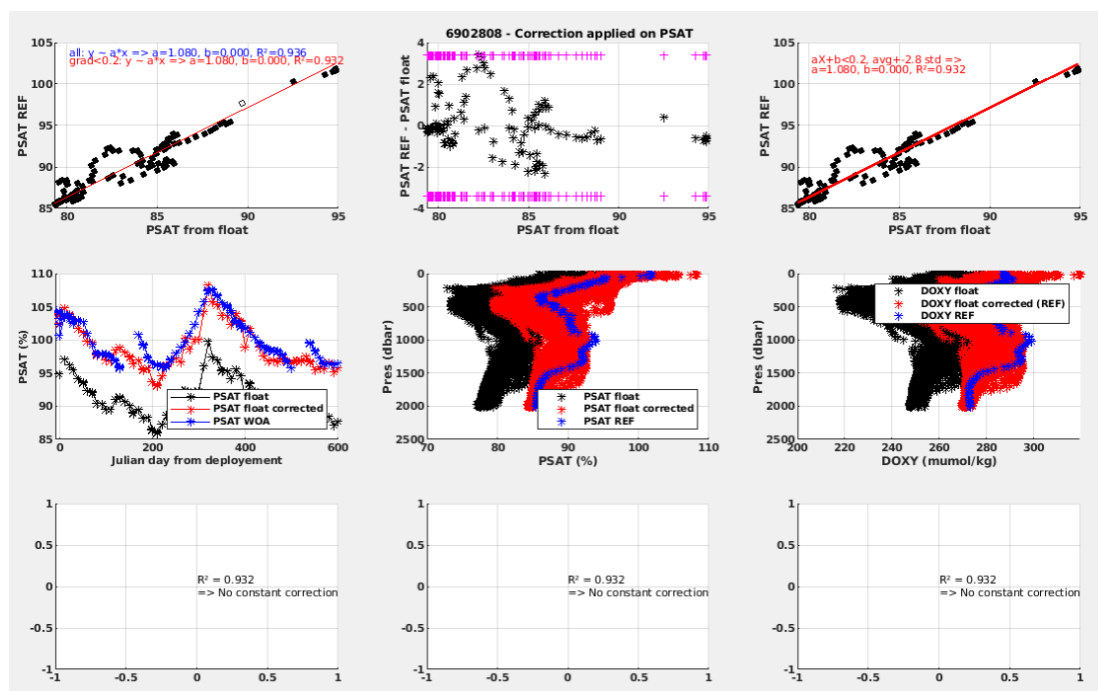

Figure 11.1c. The same as Fig. 11.1b but when the REF method was selected (saved as “DOXY_PLOT_corr...”).
- Figure 11.1c is an example of the figure displayed when the REF method was chosen for the correction. The plot is organized exactly the same way as in the plots of the WOA correction. The difference is that the first line is less dense because the correction has been computed with a single in-situ reference profile, instead of a set of WOA profiles. Another difference is in the time-series on the left of the second line; even if the selected method is the REF one, the time evolution is shown in respect to the WOA data, since the REF profile provide a single point.
In the examples of Fig. 11.1b and Fig. 11.1c the estimated R2 was above the threshold indicated in the configuration file, so, no constant correction should be applied. However, when the R2 is below the threshold indicated in the configuration file, a constant correction is proposed to apply instead of the linear regression correction (see 3.2.3). When R2 is below the threshold indicated in the configuration file another question dialogue box emerges (Fig. 11.1d).